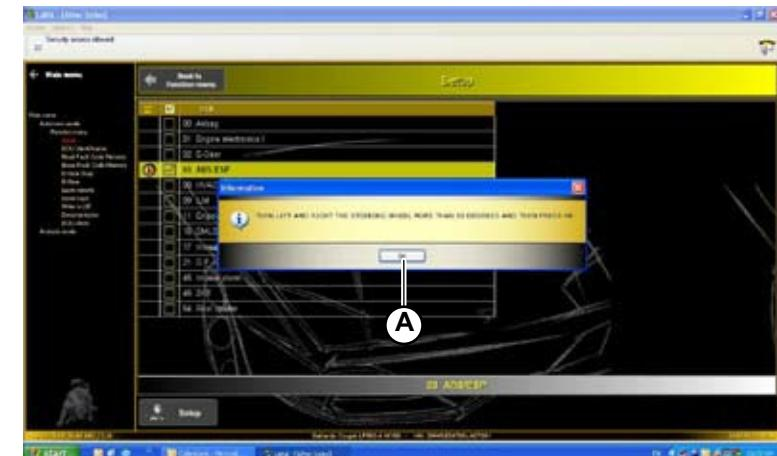

Fig.64
- Turn the steering wheel 90° right and left, then press OK (A-Fig.64).